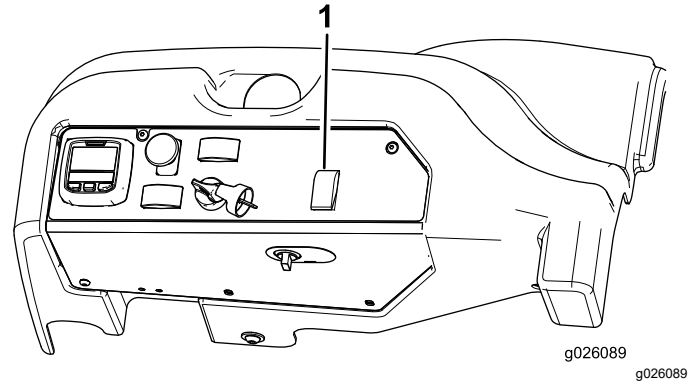

Figure 81
1. Press the steering-selector switch rearward 4-wheels steering position (Figure 81).